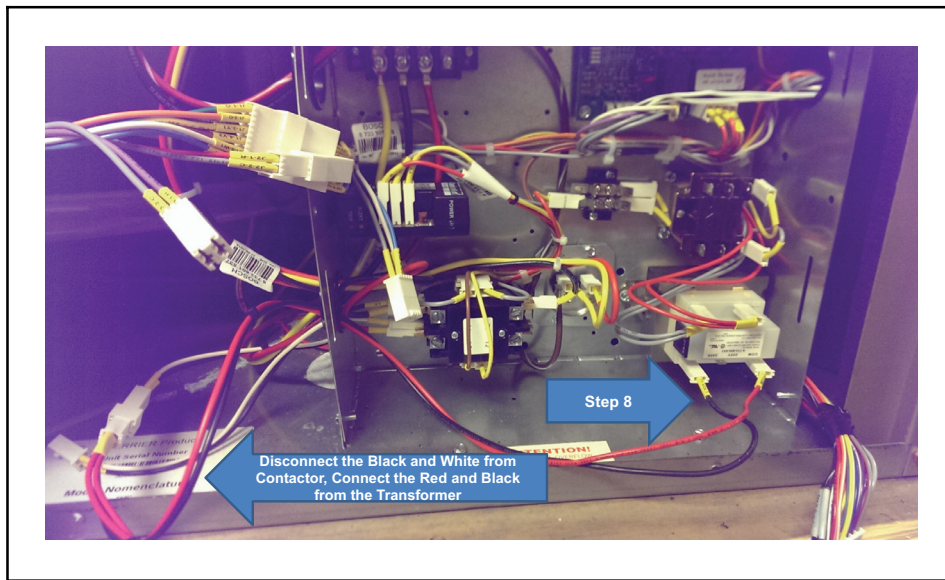

Fig. 18 — Routing EH Harness Into E-box
6. Locate the red and black wires marked T1 COM and T1 VLT from the electric heater harness. See Fig. 18.
8. Connect the red and black wire from EH harness T1 COM to the transformer COM and connect the T1 VLT to the transformer 240v or 208v per the desired primary voltage tap. See Table 1. Keep wires routed under the contactor along the bottom of the E-box. See Fig. 18.